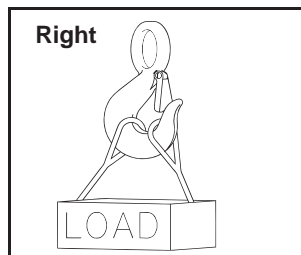

Figure 3
- When placing two (2) sling legs in hook, make sure the angle between legs is small enough and the legs are not tilted so that nothing bears against the bottom of the latch. (See Figure 3 & 4.)